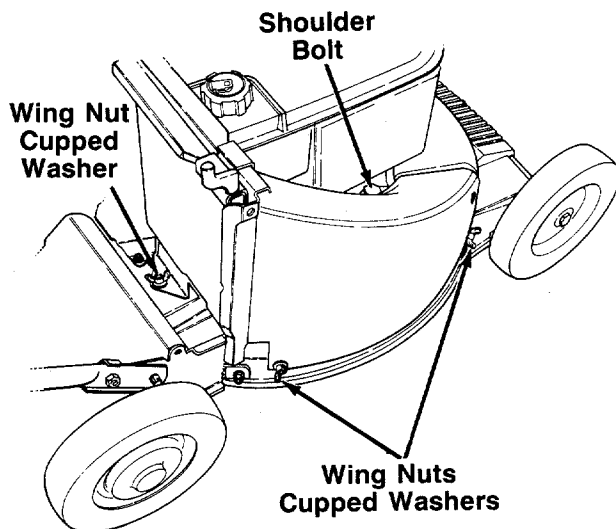

FIGURE 3.
4. Attach the rear discharge chute assembly as follows. See figure 3.